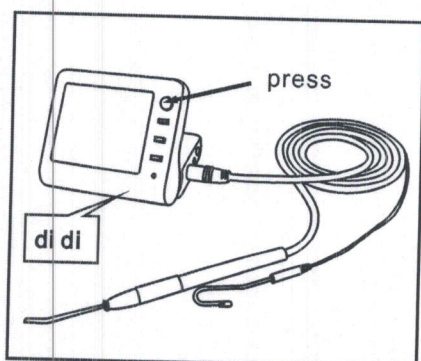

Fig 32
- 2) Connect the test handle and switch on the instrument, two tones audio signal are emitted when the unit is turned on.(Fig.32)